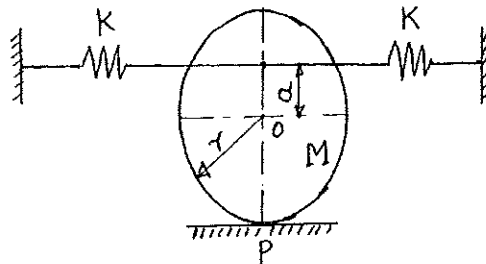

Fig. Q2(a)
- 2 a. Find out the natural frequency of the system shown in Fig. Q2 (a) by using (i) Newton's method (ii) Energy method. (10 Marks)